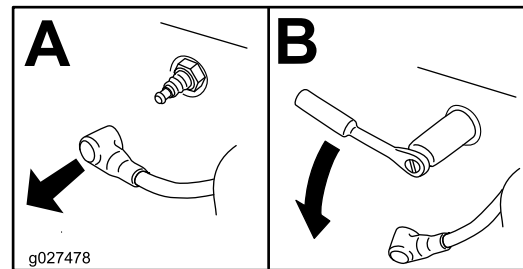

Figure 38
3. Remove the spark plug (Figure 38).